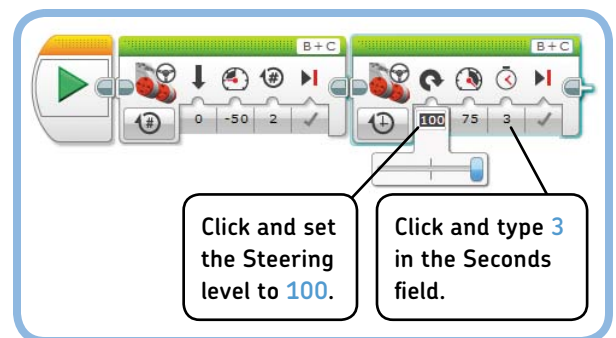

Figure 4-5: Configure the second block by dragging the steering slider all the way to the right and then entering 3 in the Seconds field.
5. To make the robot spin quickly to the right for three seconds, change the settings on the second block, as shown in Figure 4-5.